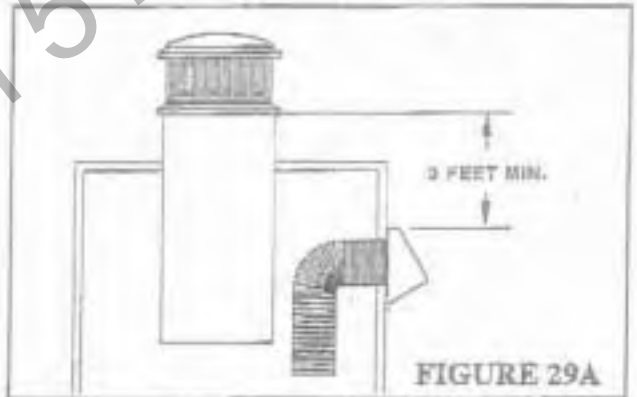

FIGURE 29A
2) For the TST-8D: 24' minimum, 60' maximum with up to four (4) elbows. Installation less than 24' is not allowed.
E) When the air inlet runs alongside the chimney, it must not end closer than three (3) feet to the chimney termination as shown in Figure 29A.